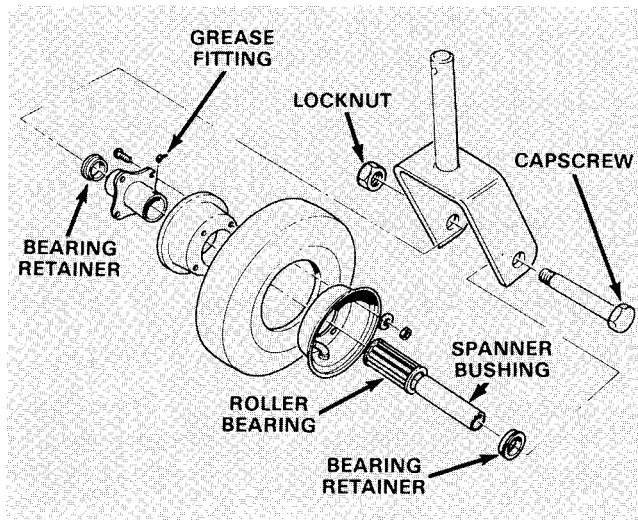

Figure 8
1. Remove locknut from capscrew holding castor wheel assembly between castor fork (Fig. 8). Grasp castor wheel and slide capscrew out of fork.
Note: Account for the two bearing retainers (Fig. 8).
2. Tip wheel to the side and allow roller bearing and spanner bushing to fall out (Fig. 8).
6. Pump more grease through grease fitting on wheel (Fig. 8) until bearing is greased thoroughly.